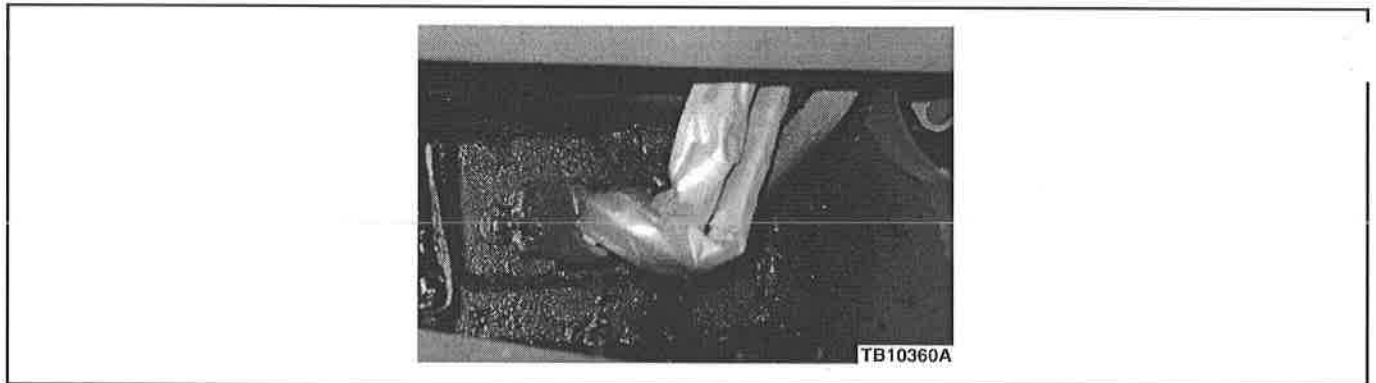

Figure 6 - Article 16-0166
22. Spray a generous amount of 3M™ Rubberized Undercoating around the auxiliary air conditioning lines and seam sealer areas. (Figure 6)